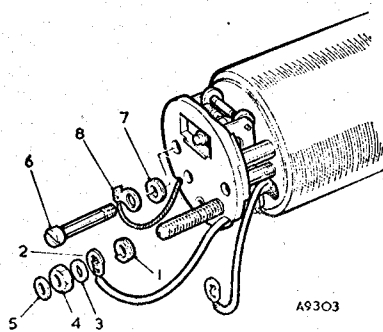

Fig. 4. Attaching the pedestal to the coil housing
3. Assemble the 2 B.A. spring washer (1) (Fig. 4), and put the terminal stud through the 2 B.A. terminal tag (2), then fit the lead washer (3) and the coned nut with its coned face to the lead washer. (This makes better contact than an ordinary flat washer and nut.) Tighten the 2 B.A. nut and finally add the end-cover seal washer (5).
4. Assemble the pedestal to the coil housing (Fig. 4) by fitting the two 2 B.A. pedestal screws (6), ensuring that the spring washer (7) on the left-hand screw (9 o'clock position) is between the pedestal and the earthing tag (8). When a condenser is fitted, its wire clip base is placed under the earthing tag and the spring washer is dispensed with.
5. Tighten the screws, taking care to prevent the earthing tag (8) from turning, as this will strain or break the earthing flex. Do not overtighten the screws or the pedestal will crack.